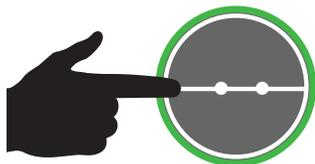

Figure 114. Main Circuit Breaker ON Button
- Press the **Main Circuit Breaker ON** button (Figure 114).